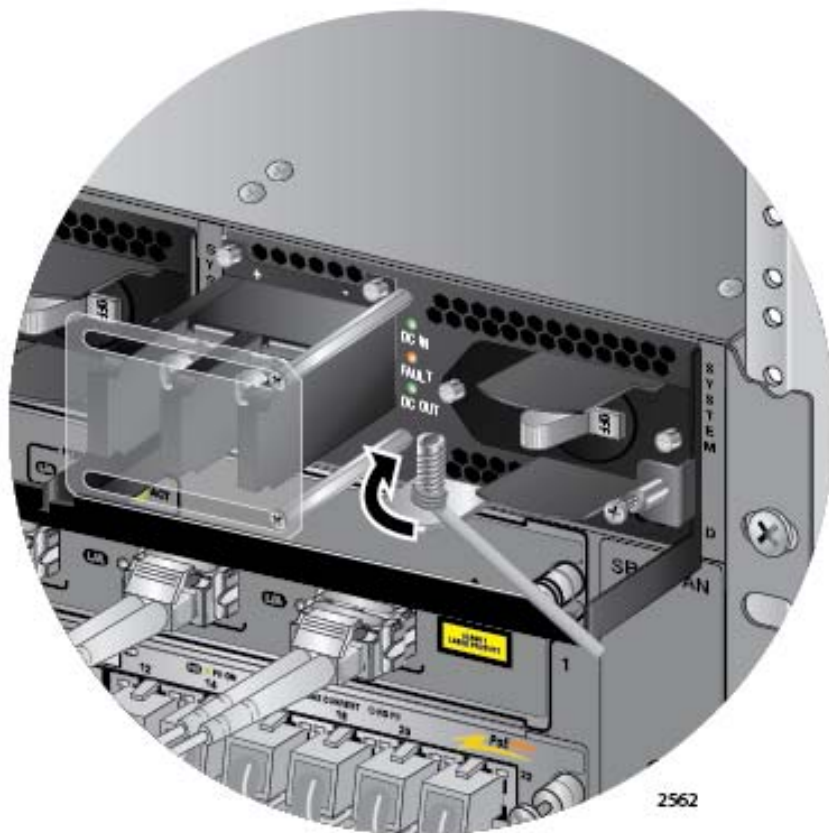

Figure 122. Attaching the Bare Grounding Wire to the Grounding Post
3. Wrap the grounding wire clockwise around the base of the grounding post, as shown in Figure 122.